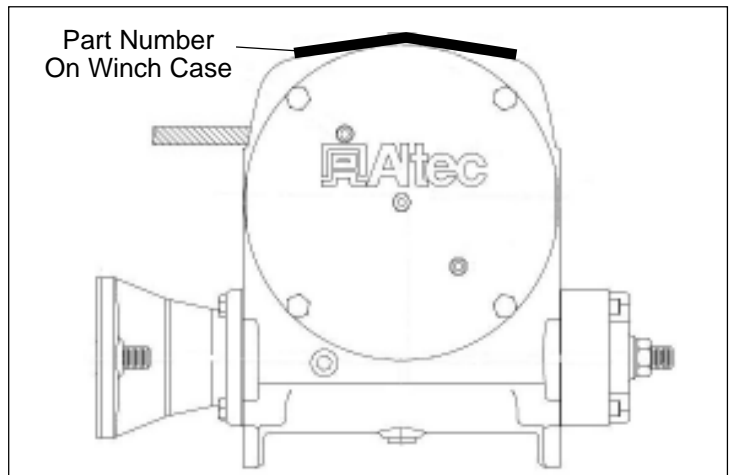

Figure 5 — Winch Part Number Location
40. Cross out the old part number (refer to Figure 5) and scribe in 415-00160 in its place so that future service will use the correct part number.